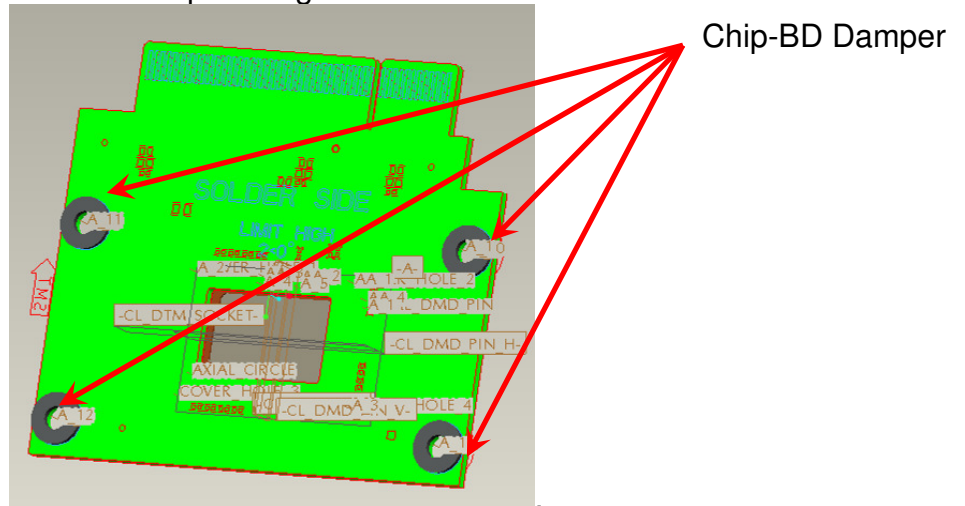

Fig. 5-5.
5.4 Place Damper on the surface of Chip-BD Fig. 5-5.